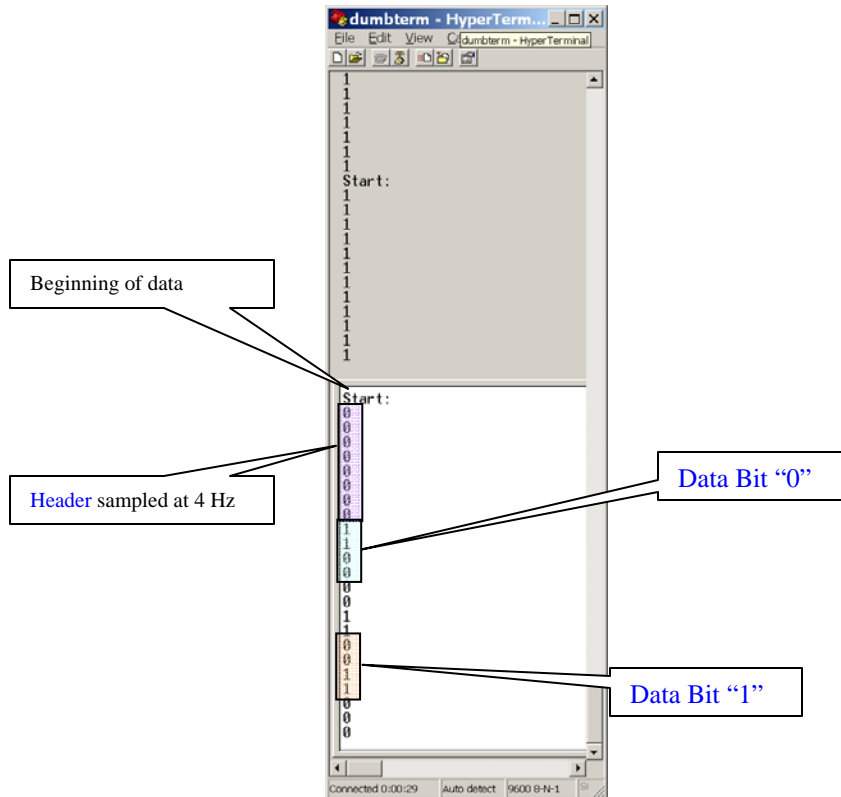

Figure 6: Object Detection Output Data
- b. You will need to have a HyperTerminal window open and the pushbutton connected to *RC0* in order to test this code. The code will display the data received from the transmitter on the HyperTerminal. If you press the pushbutton, then the data signal should change (see Figure 6).